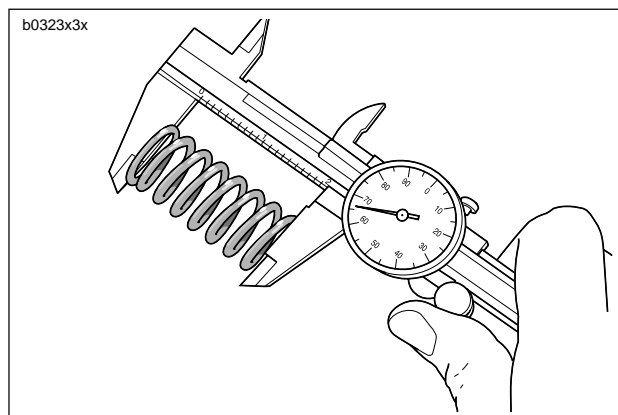

Figure 3-16. Checking Spring Free Length
16. See Figure 3-16. Check free length and compression force of each spring. Compare with SERVICE WEAR LIMITS. If spring length is shorter than specification or if spring compression force is below specification, replace spring.